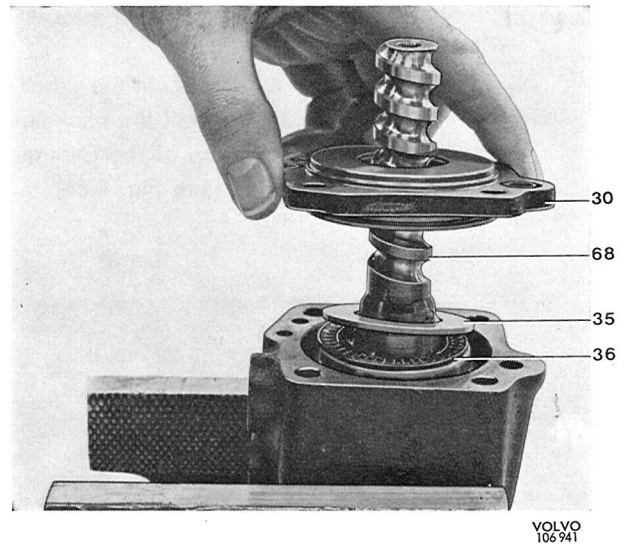

Fig. 6-86. Installing cover
2. Tighten the valve housing (56) with the large bore facing upwards (see Fig. 6-86). Install
the preassembled worm in the housing. Install the needle bearing (61), the bearing washer (35) and the cover (30), see Fig. 6-86. Secure the cover with the bolt (50 and 52) and four nuts M8. Tightening torque is 34 Nm (25 lbft). Check to make sure there is no looseness in the journaling. A torque of .15—.25 Nm (1.3—2.2 lbin) is required to turn the worm. If this is measured according to Fig. 6-87, the scale should read 17—29 N (3.7—6.4 lbs).